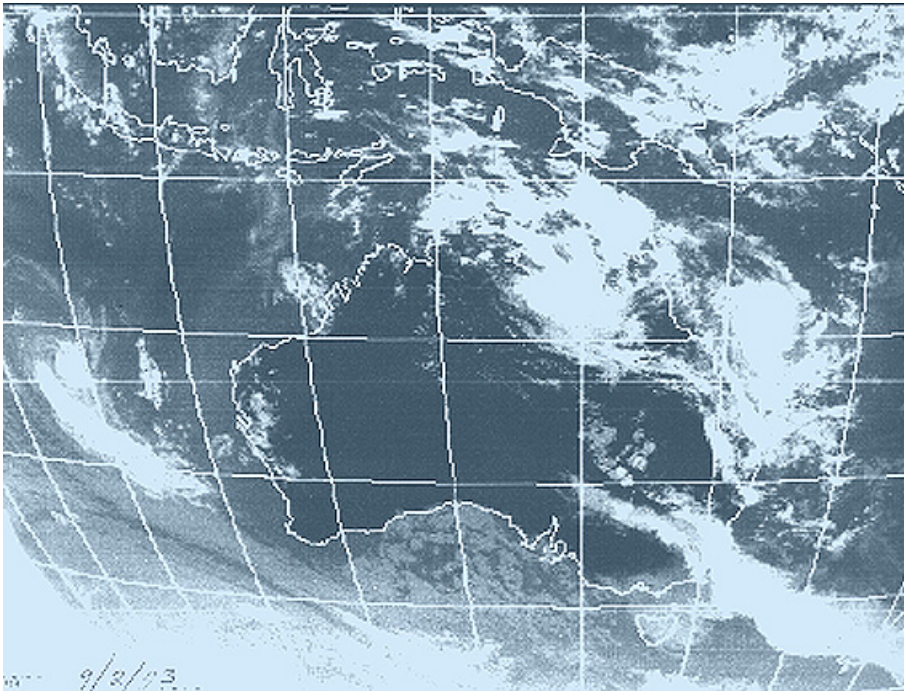

Figure 84.1 Satellite photograph for questions 5 and 10 (photograph courtesy Brisbane Weather Bureau)
5. a. Suggest what the white patches on Figure 84.1 mean.
10. Attempt to draw a weather map from the information presented in the satellite photograph in Figure 84.1. How confident are you of your predictions?